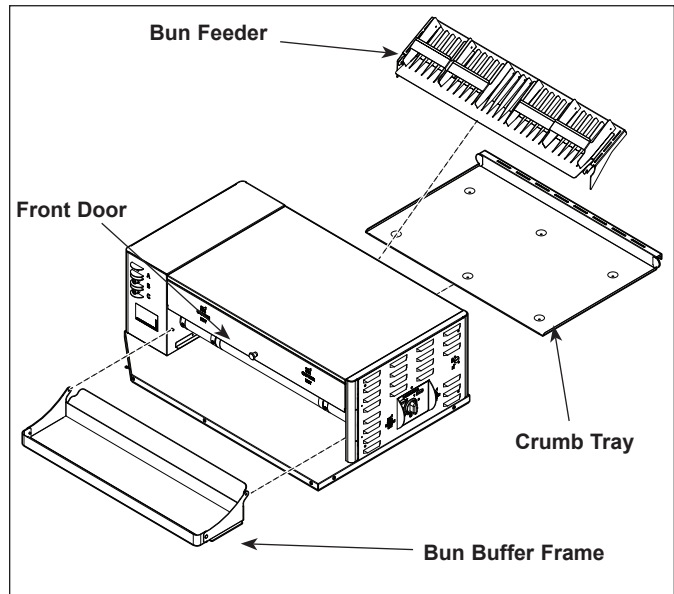

Figure 4. HCT-5H Components
2. Put on neoprene gloves. Remove the Bun Feeder, Crumb Tray, and Bun Buffer Frame (Figure 4).
7. Lift the front door to inspect the belts (Figure 4). Replace any Belts that are torn, folded, discolored, missing snaps, or damaged in any way.